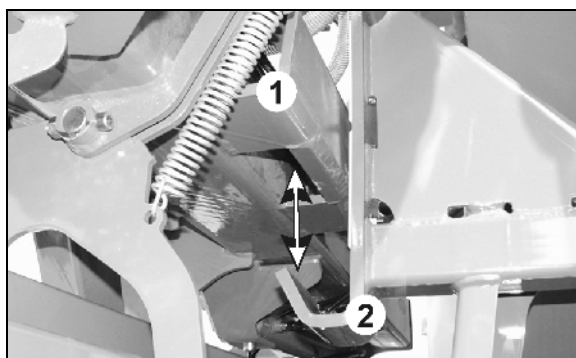

Fig. 112
- Fold the wings (Fig. 112/1) until the slide skids of the transport locking.
- The machine wings (Fig. 112/1) lower into the transport locking (Fig. 112/2).
→ The wings (Fig. 112/1) lower into the transport locking (Fig. 112/2).